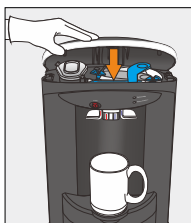

Figure 41
15. Close the top cover of the cooler (Figure 41) (push downwards to lock into place)